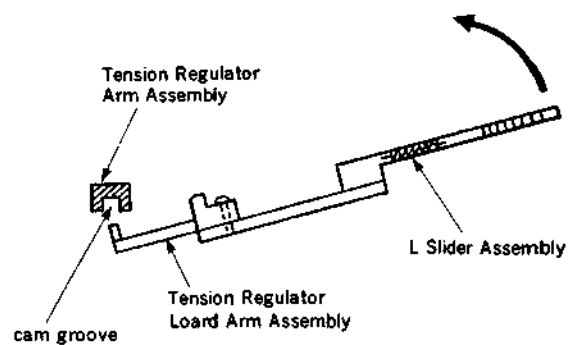

Fig. 2
- (1) Remove the Cassette-up Compartment Assembly referring to Section 2-13.
- (2) Remove the Fly Wheel referring to Section 7-2-1.
- (3) Remove the Threading Ring Assembly referring to Section 7-2-4.
- (4) Remove the Entrance Guide (P) Assembly referring to 7-2-10.
- (5) Remove the Slant Guide Block Assembly referring to Section 7-2-11.
- (6) Press the L-mode select button of the Mode Selector and set to the **DRUM START** mode.
- (7) Remove the Slant Guide Drive Gear.
- (8) Remove the two stopper washers from the L Slider Assembly.
- (9) While pushing the projection of the RL Arm Assembly in the direction of the arrow, lift the right side of the L Slider Assembly and remove it from the shaft.
- (10) Lift the right side of the L Slider Assembly as shown in figure 2 and remove the pin of the Tension Regulator Load Arm Assembly from the cam groove of the Tension Regulator Arm Assembly, and then remove the L Slider Assembly.
- (11) Remove the stopper washer and remove the Tension Regulator Load Arm Assembly.